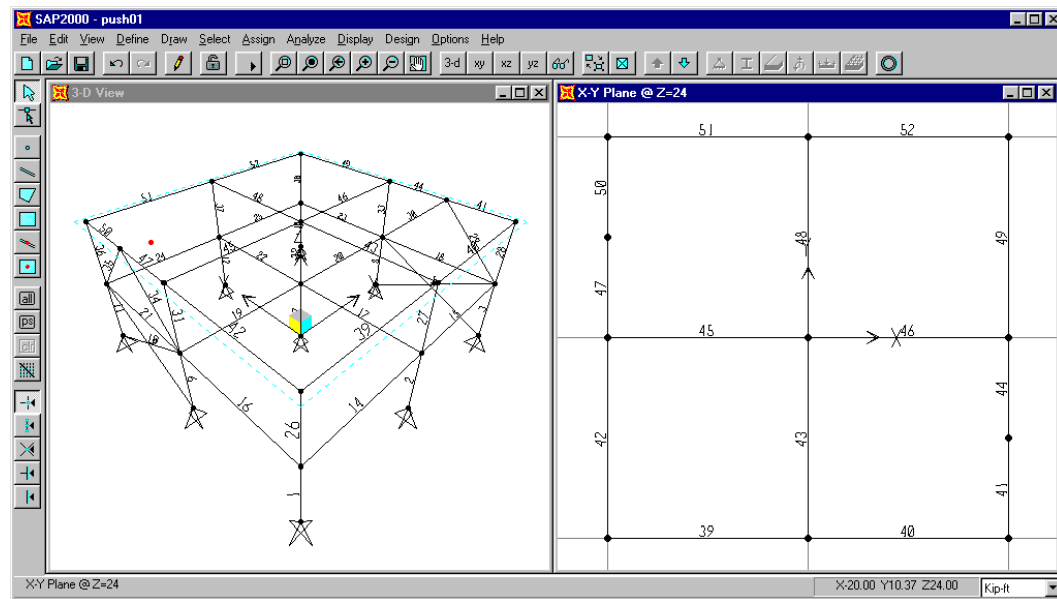

Figure C-15: Frame Element Labels
8. In the window labeled X-Y Plane @ Z=24, click on frame elements 40, 45, 46 and 51 to select them (see Figure C-15).
Note: You can refer to Figure C-15, Figures B-2 and B-3, as well as the screen, to identify the frame element numbers.